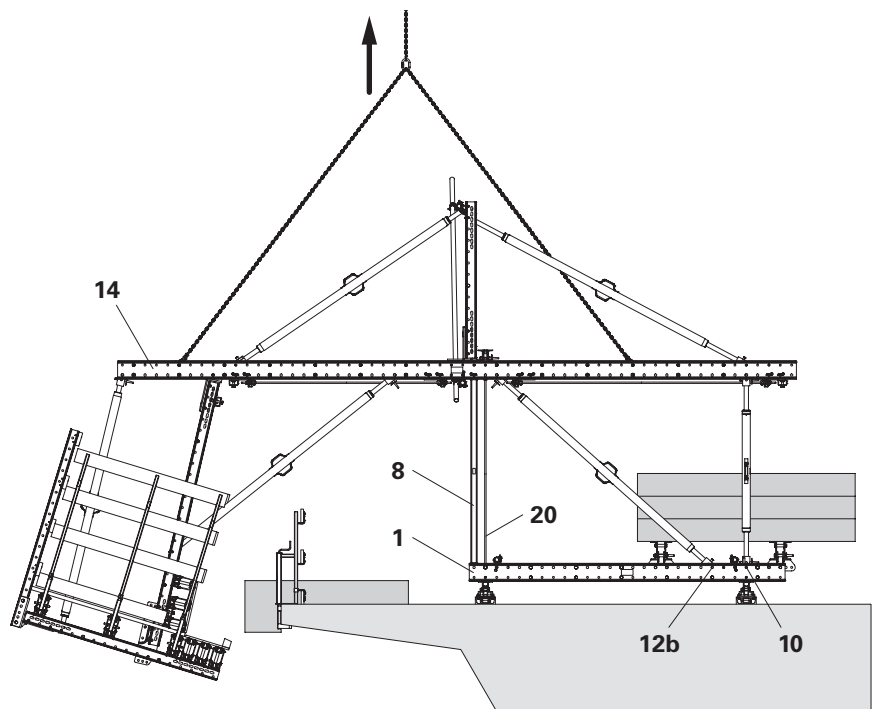

Fig. E1.02
4. Remove the kicker braces together with the concreting platform. (Fig. E1.02 + E1.03)